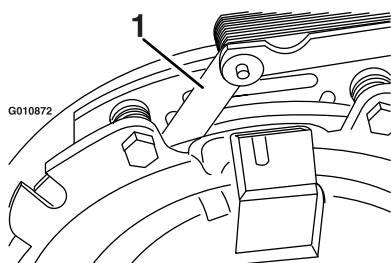
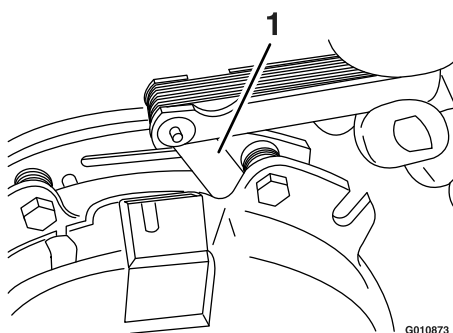

Figure 67
Figure 68
- E. Using a 0.010 inch thick-feeler gauge, verify that a gap is present between the rotor and armature face on both sides of the brake pole as shown in Figure 67 and Figure 68.